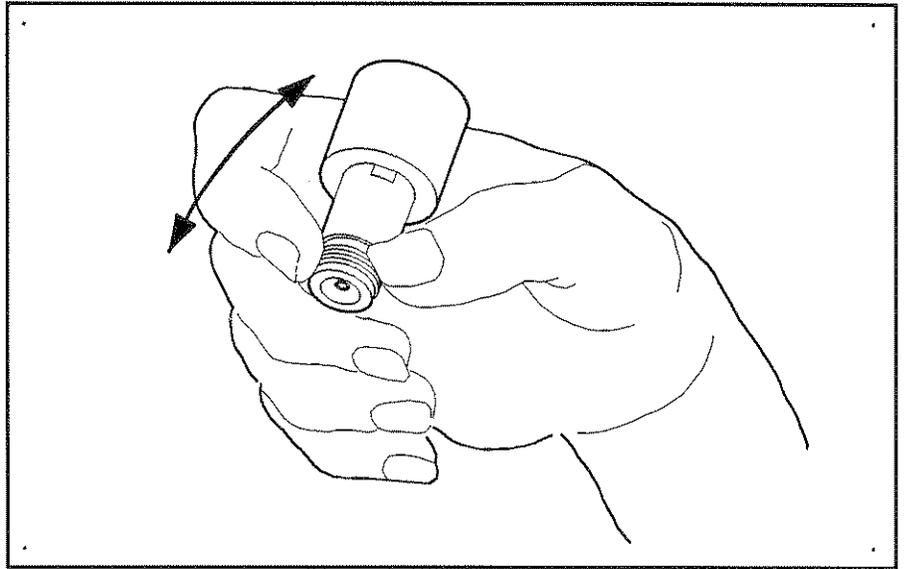

Figure A-11. Freeing a Broken Contact Finger
- b. If you can see the broken fingers inside the inner contact, turn the device upside down and gently tap on it (see Figure A-11).